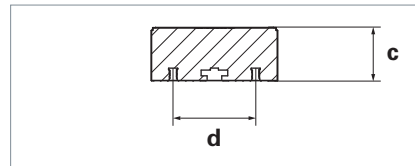
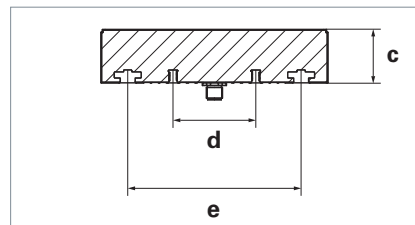

Fig. 2: Dimensions MSAL 24/48/72/96 S, cross section through the short side of the light.
Fig. 3: Dimensions MSAL 90/180 S, cross section through the short side of the light.
- Mount the light with suitable slide nuts M5 to the mounting surface. For the distances of the tee-slots on the light MQAL 90/180 S, see Fig. 3.
- Mount the light with the suitable screws M6 to the mounting surface. For the distances of the screw channels on the light, see Fig. 2 and Fig. 3.